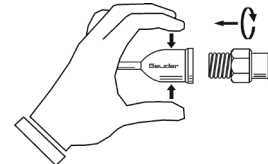

Fig. 5
- Attach the cleaning adapter (G-31021) as shown in fig. 5.
- After cleaning and disinfection disassemble the cleaning adapter in reverse order (see fig. 5).